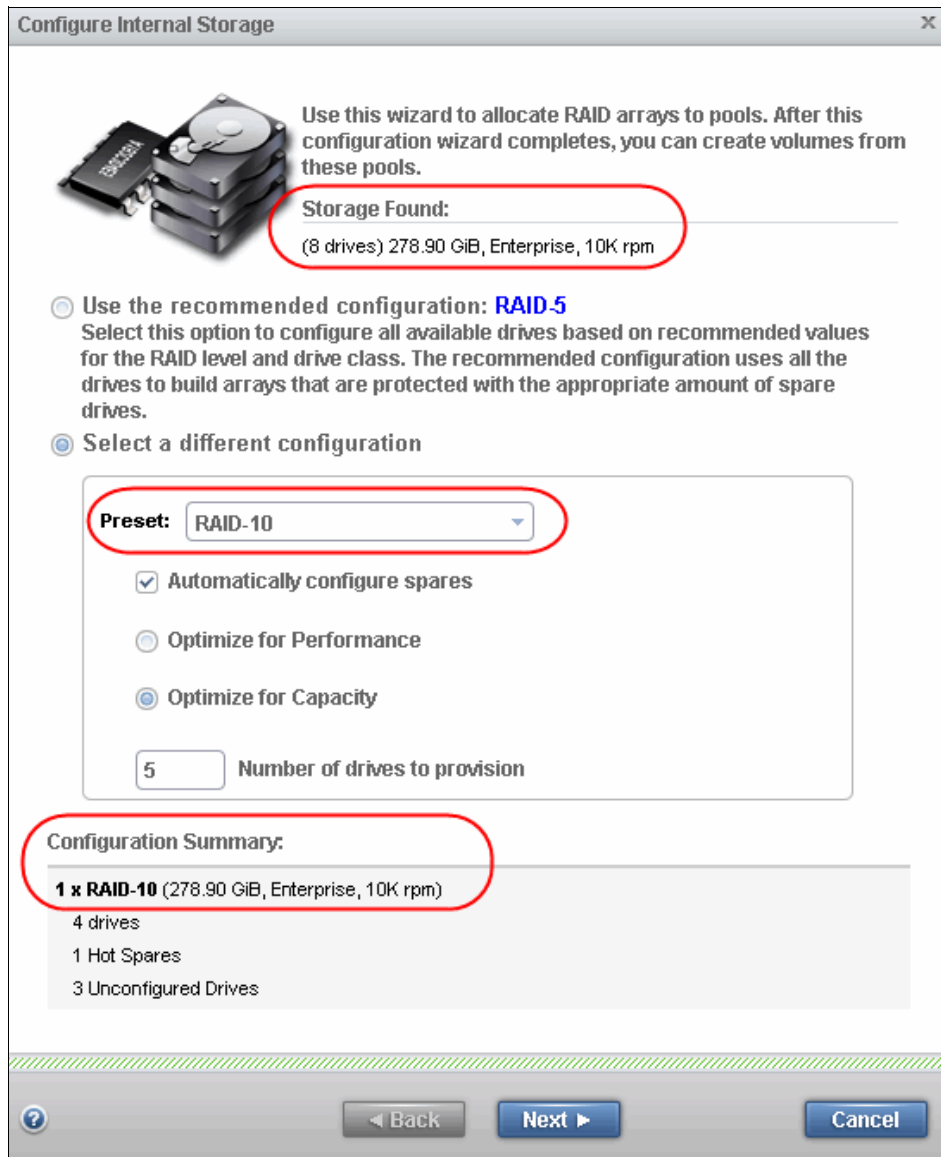

Figure 9-16 Creating a new MDisk
2. Select the class of drive that you want to include in the multitiered pool and click **Configure Storage**. In this scenario, we provision one Redundant Array of Independent Disks (RAID) 10 MDisk array using the Enterprise drive class, as shown in Figure 9-16. Click **Next** to continue.